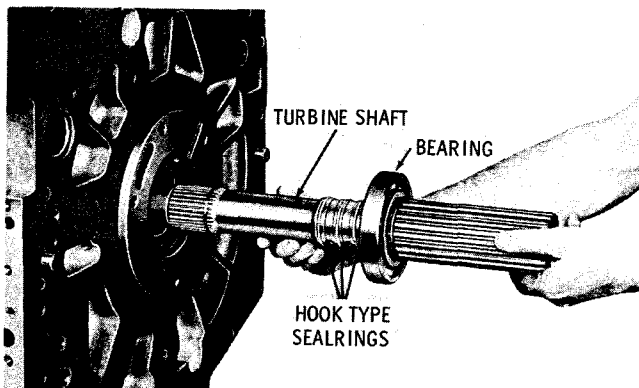

Fig. 7-64. Installing turbine output shaft (CT, CLT, VCLT)
(1) Install converter housing components as outlined in g(1) through (7), above.
(2) Install the bearing assembly and step-joint or hook-type sealrings onto the shaft (fig. 7-64). CT models use only two in place of three sealrings. If included, install the sealring behind the bearing. Install the shaft into the housing (fig. 7-64).